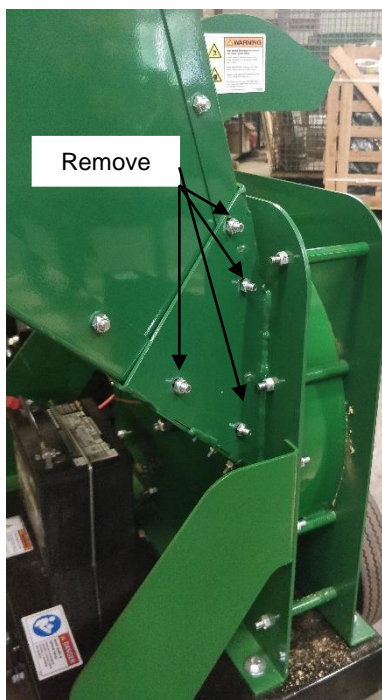

Figure 48
1. Remove the lowest four 5/16-18 x 3/4" Truss Head Bolts and thin Nylon Locknuts that attach the Hopper Assembly onto the Hopper Neck from each side of the Hopper Assembly (**Figure 48**).